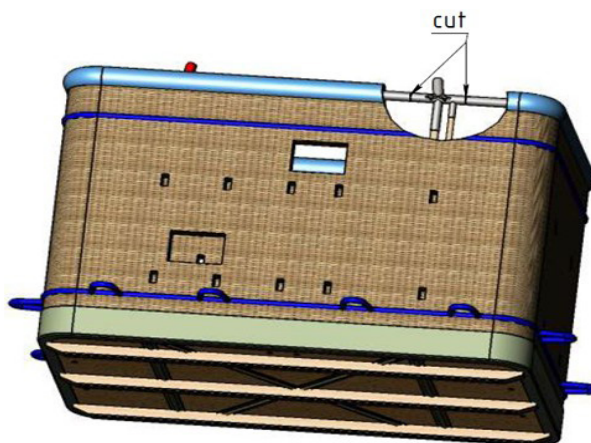

Fig. 4: Placement of cuts on example basket
**Note that placement of cuts in Fig. 4 a 5 is only for reference, exact placement depends on each specific basket damage.**